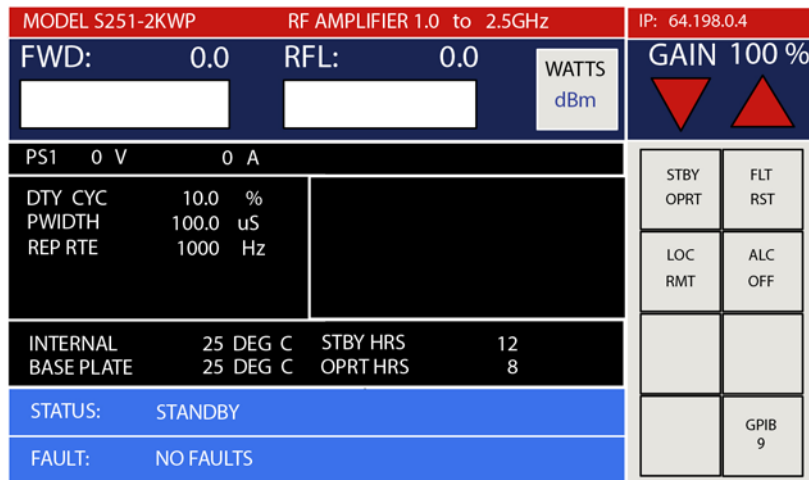

FIGURE 5.0 – MAIN MENU AND STATUS DISPLAY (Typical)
Control Level Adjust Knob	<p>The Optional Level Adjust control is a ten-turn pot, which allows a minimum of a 30-dB range of gain. Turning the control Counter Clockwise (CW) produces a minimum gain.</p> <p>Important Note: If the amplifier is not equipped with this option, the display will still indicate a GAIN percentage (refer to Figure 5.0). This percentage indication is still controlled by Level Adjust Control but the both the Level Adjust Control and the corresponding GAIN percentage indication has no effect on the amplifier gain.</p>
Important Note: Figures 5.0 and 6.0 indicates the display for a typical amplifier and the ALC option is indicated however if the amplifier is not equipped with this option, the ALC option will not be displayed.